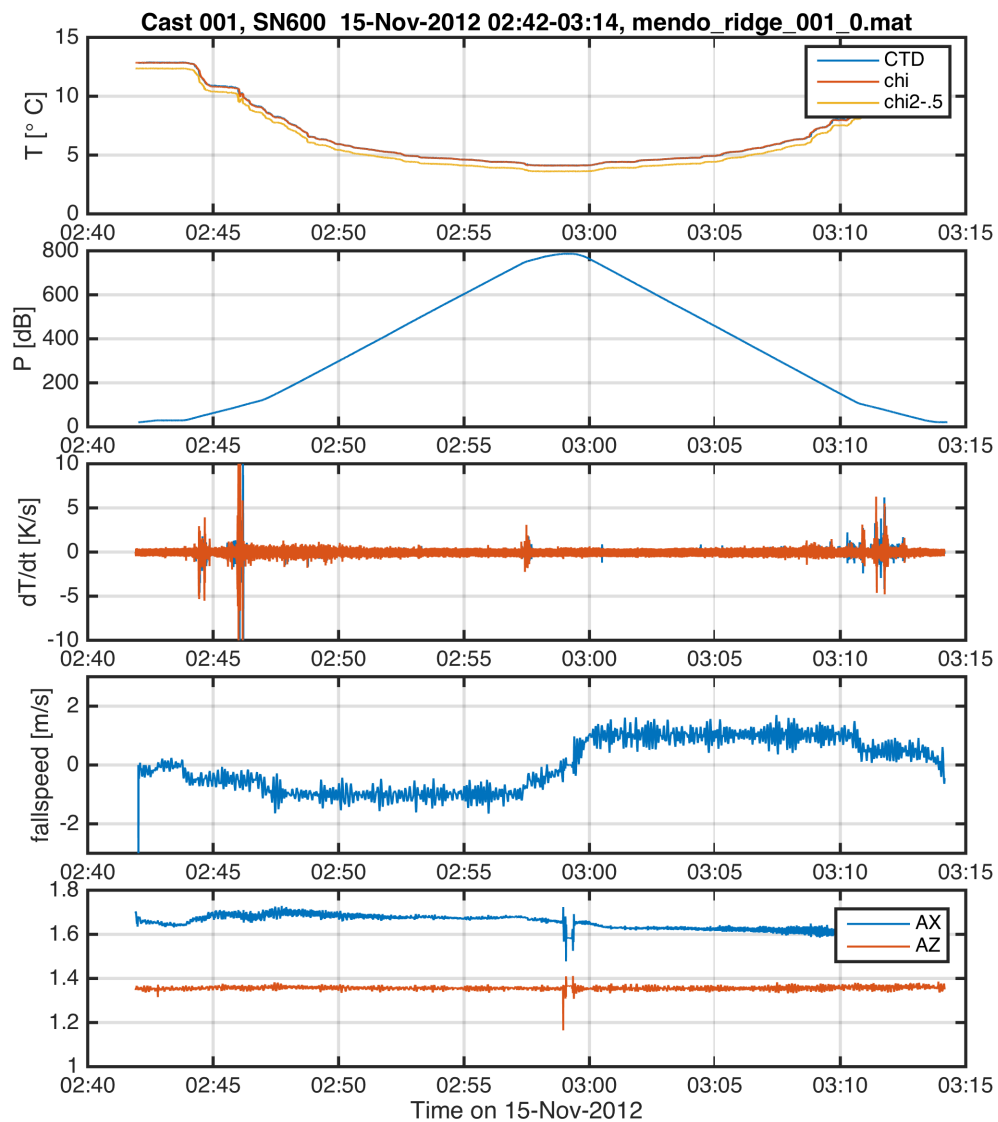

Figure 5: Time series of aligned and calibrated chipod data for one cast.
- cast_001_T_P_dTdz_fspd (Figure 5)